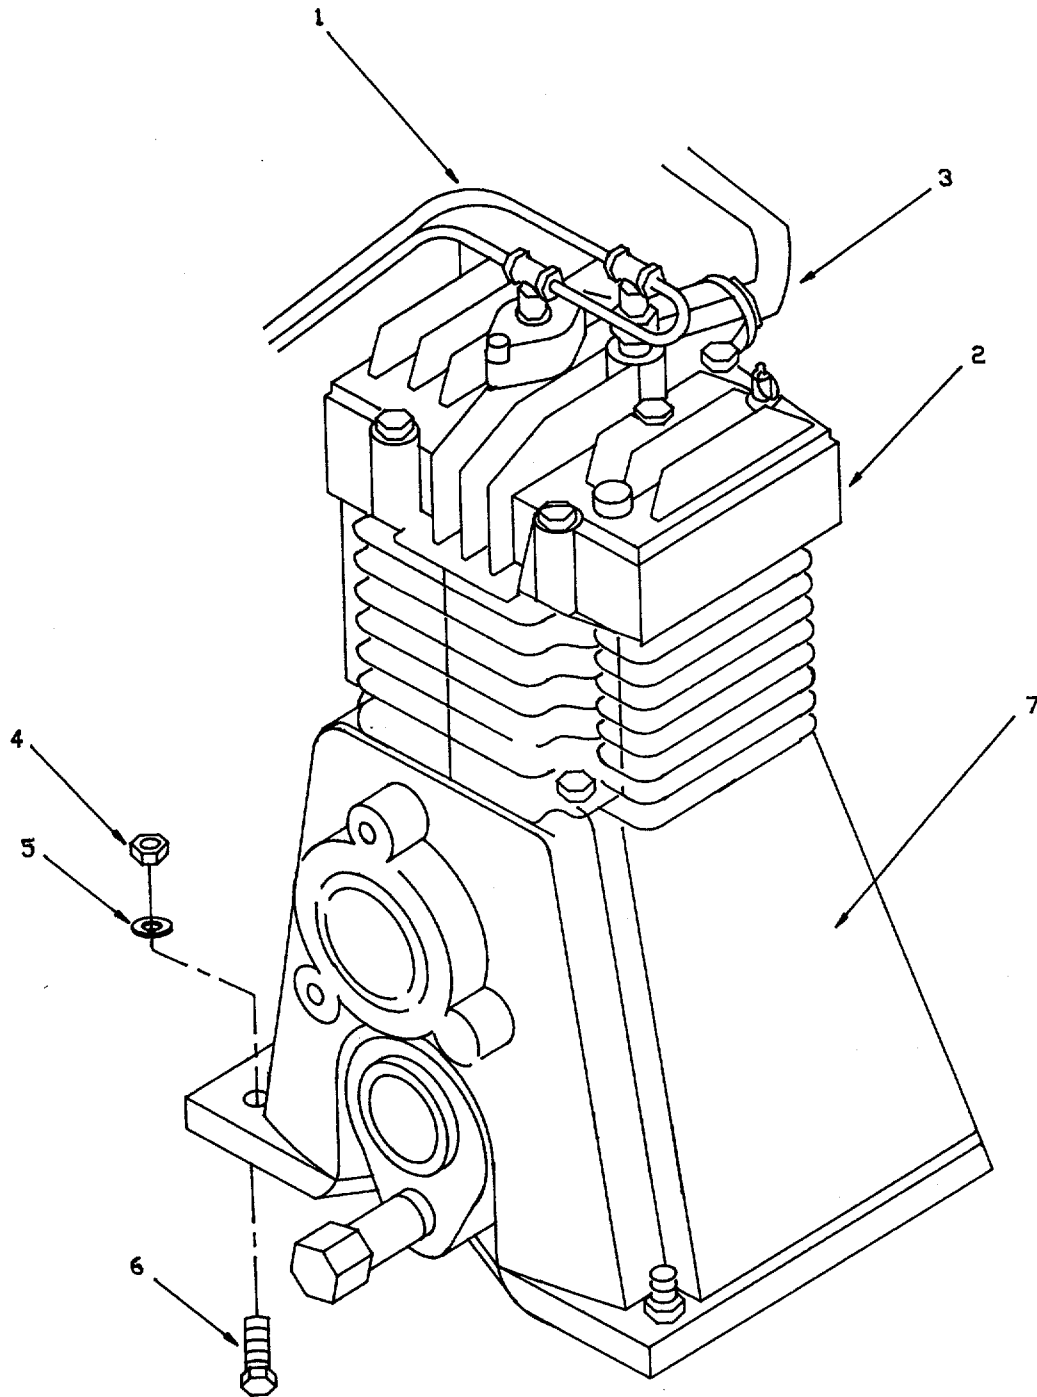

Figure 4-22. Reciprocating Compressor.
- (1) Remove nonmetallic tubing (1, Figure 4-22) from top of reciprocating compressor cylinder head (2).
- (2) Remove metallic tube (3).
- (3) Remove plain hexagon nuts (4), lock washers (5), and cap screws (6).
- (4) Remove reciprocating compressor (7).